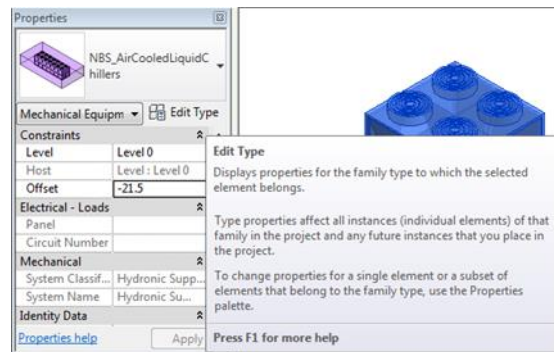

Fig. 9
- Type Parameters are applied to all instances of a Family:Type BIM object within a project, these can be accessed by clicking on the BIM object, then clicking on the Edit Type button in the Properties panel (Fig. 9).